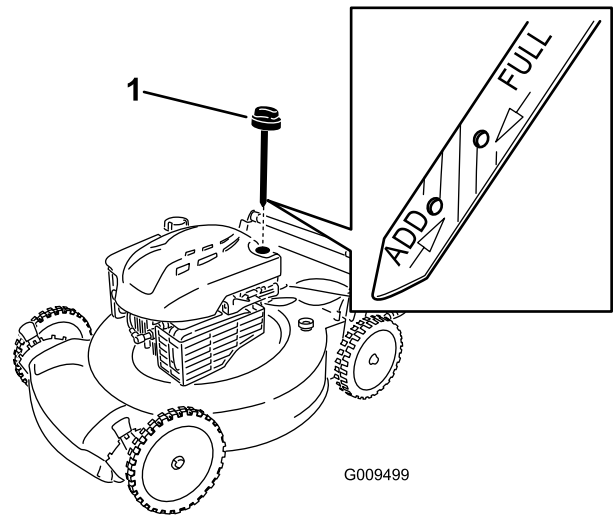

Figure 24
2. Remove the dipstick (Figure 24).
4. **Slowly** pour oil into the oil fill tube until the oil level reaches the **Full** line on the dipstick (Figure 24). **Do not overfill.** (Max. fill: 20 oz. (0.59 l), type: SAE 30 detergent oil with an API service classification of SF, SG, SH, SJ, SL, or higher.)